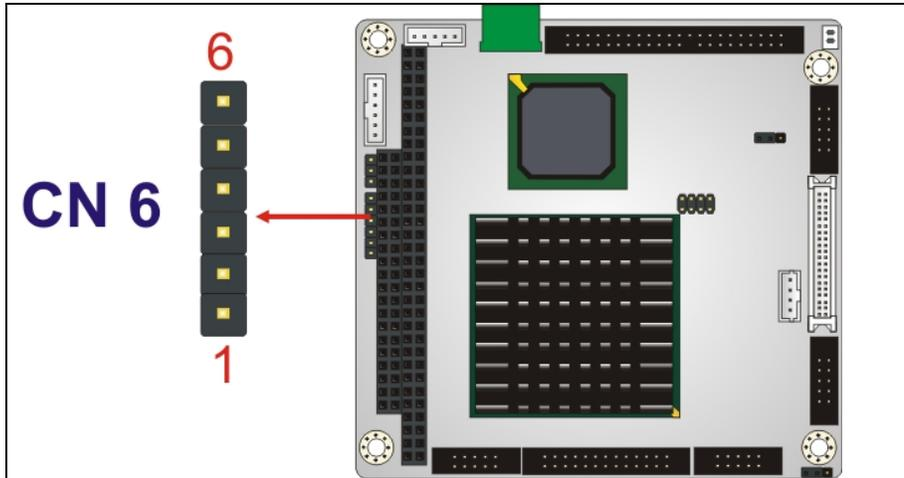

Figure 3-13: LED Connector Location
- CN Location:** See **Figure 3-13**